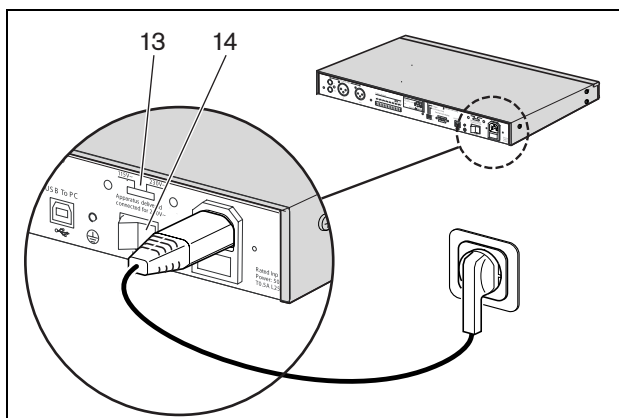

figure 4.1: Power switch on rear panel
- 1 Make sure the voltage selector (115V/ 230V) (13) is correctly set for the country's main voltage (see figure 4.1).
- 2 Set the power switch (14) on the rear of the Timer to the "I" position.
Set the power switch (14) on the rear of the Timer to the "O" position (see figure 4.1).